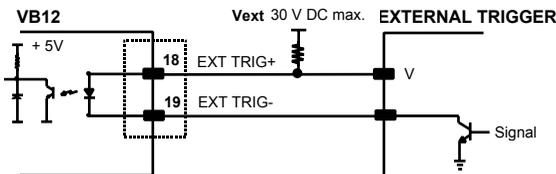
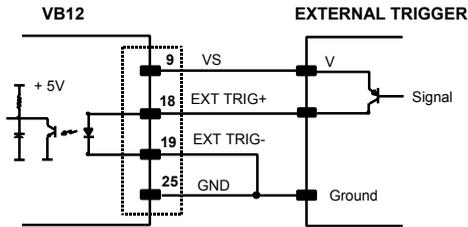

Figure 5.12 Input NPN command using external power
Figure 5.15 Input PNP command using scanner power
The yellow LED (see section 4.2, figure 4.1, pos. 5) is on when external trigger forces a current flow through the EXT TRIG+ and EXT TRIG- pins. This input is optocoupled and can be driven by both an NPN or PNP type command. The connections are indicated in the following diagrams (figure 5.12 to figure 5.15):